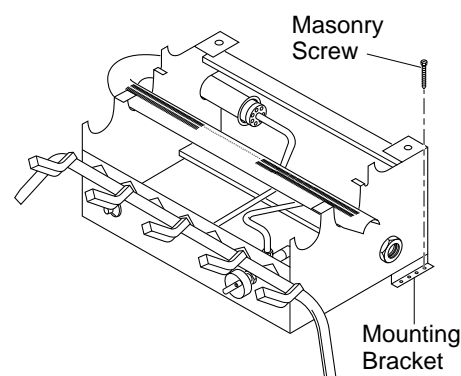

**Figure 12 - Attaching Flexible Gas Hose to Heater Gas Regulator**
1. Apply pipe joint sealant lightly to male threads of the fitting to be threaded into gas regulator. Connect approved flexible gas hose to gas regulator of heater (see Figure 12).